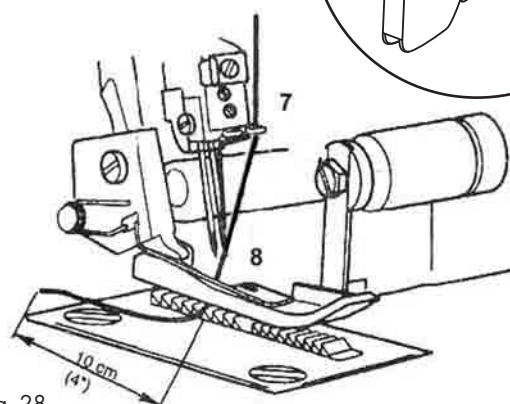

Fig. 28
5. Thread the yarn through the right needle (8) (Fig. 28).